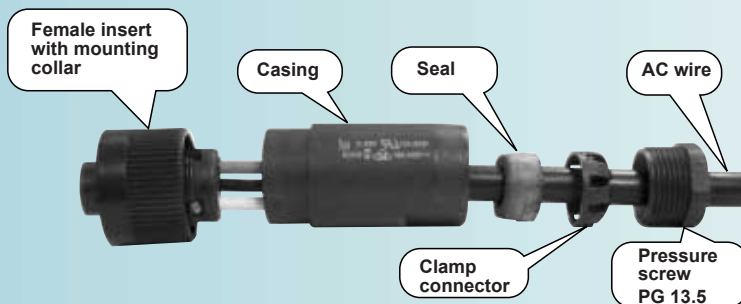
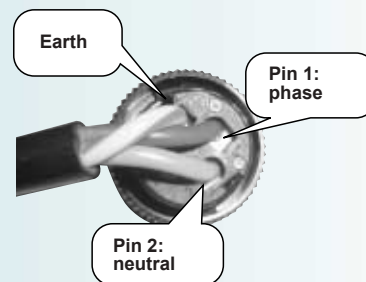

Fig. 9
Fig. 10
- Connect the cables as follows (Fig. 9 and Fig. 10):